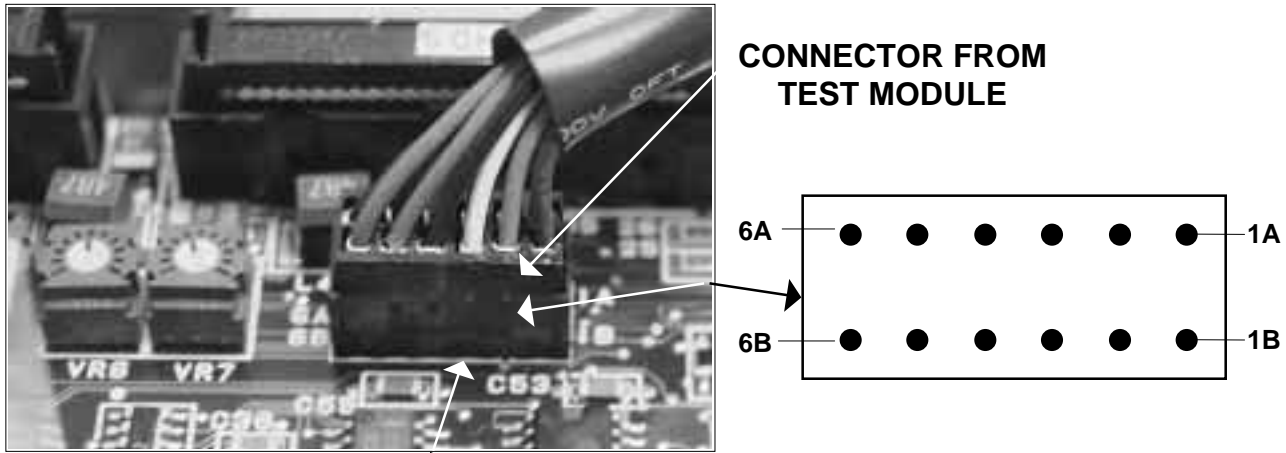

Fig. 4-21
3.	Connect (+) probe of the multimeter to check pin 5B and (-) probe to 1A pin. NOTE: If you are using the TP Test Module, refer to Fig. 4-21 & 4-22. Refer also to Section 4-3. Set the dial to 8.